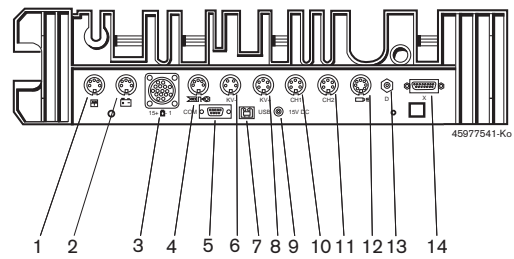

Fig. 3: FSA 740 Edition terminal strip (from below)
2. Connect the sensors to the specified slots in the measuring unit (see Fig. 3). Only connect current clamp 30 A and 1000 A as well as adapter line 1 684 465 513 if necessary.